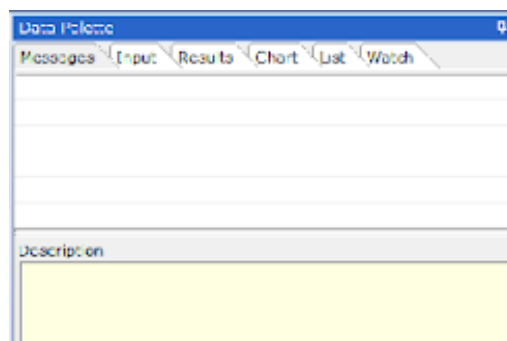

Figure 29: Warning Messages Tab.
31. Select the *Messages* tab on the *Data Palette*, we can view all warnings for the model including a description of each (Figure 29). The converged hydraulic model has no warnings. Therefore, we can now proceed with the analysis of the results.